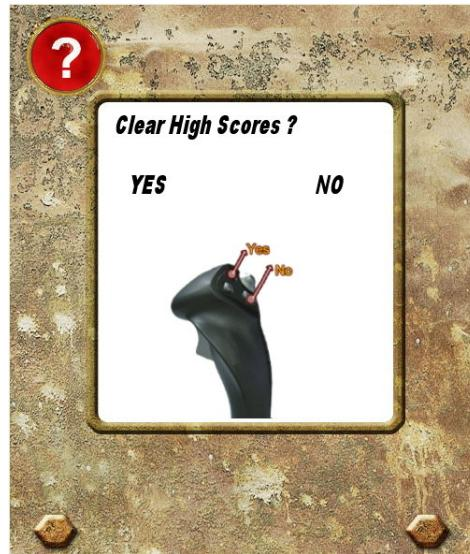

Fig. 4-12 “*Clear High Scores*” Window
11. “Clear High Scores” will erase all high scores and replace with the default settings.(Fig. 4-12)